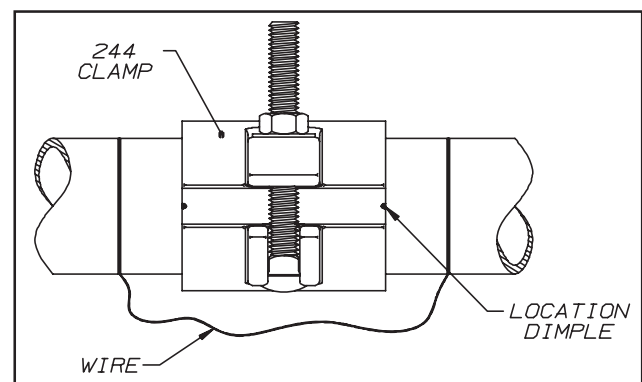

FIGURE 2
- 5 )CENTER BRIDGE PLATE AS SHOWN IN FIGURE 2 BY ROTATING BAND ASSEMBLY SO THAT LOCATION             DIMPLES ARE CENTERED BETWEEN THE OPEN AND CLOSED LUGS.